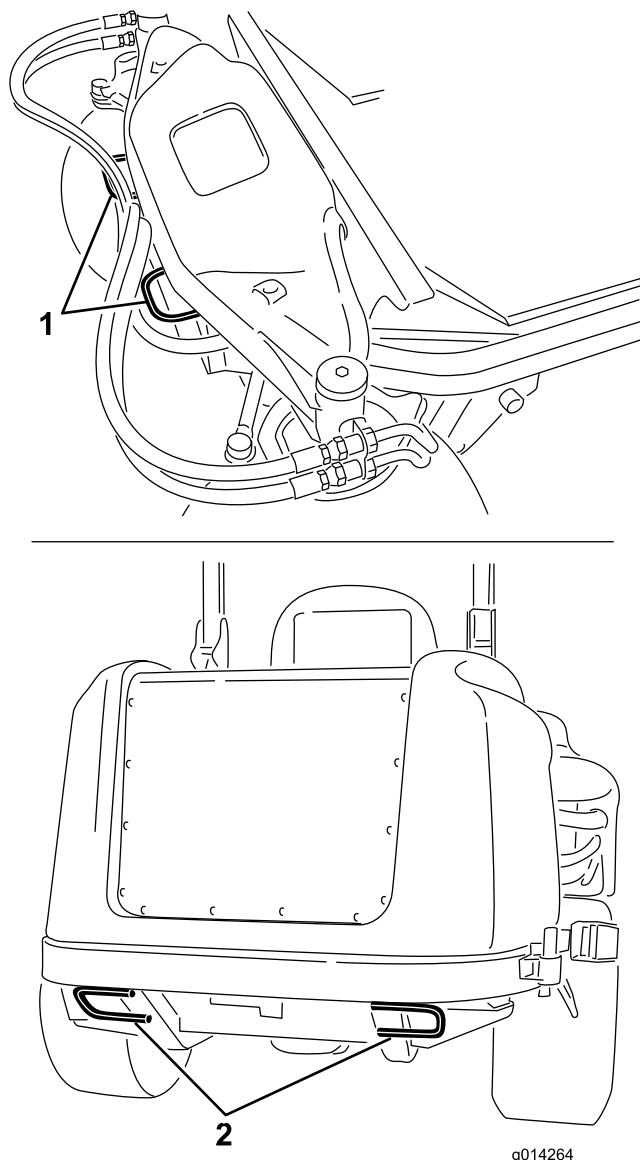

Figure 24
- Securely fasten the machine to the trailer or truck with straps, chains, cable, or ropes as required by local traffic regulations in your area (Figure 24).